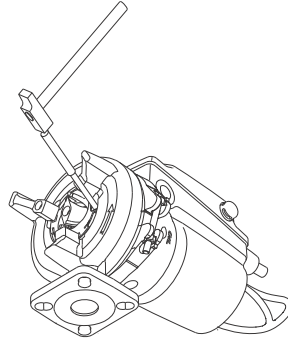

Fig. 15 Removing the grinder ring
2. Loosen the grinder ring (44), and open the bayonet socket by knocking or turning the grinder ring 15 to 20 ° clockwise. See fig. 15.